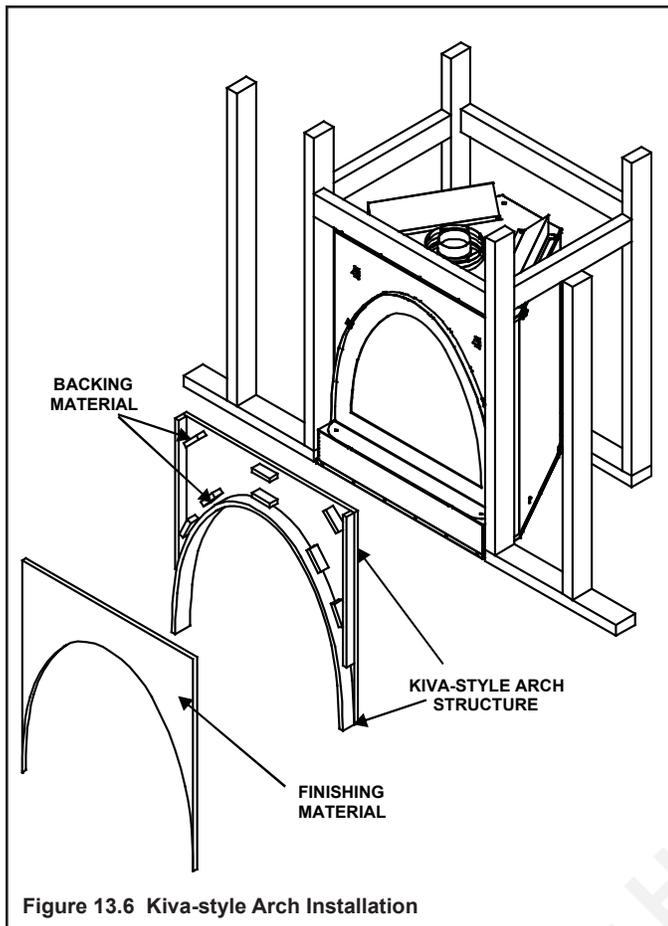

Figure 13.6 Kiva-style Arch Installation
- A template is provided on appliance shipping carton. Simply cut along the line and use as a template when constructing kiva-style arch (see Figure 13.6).